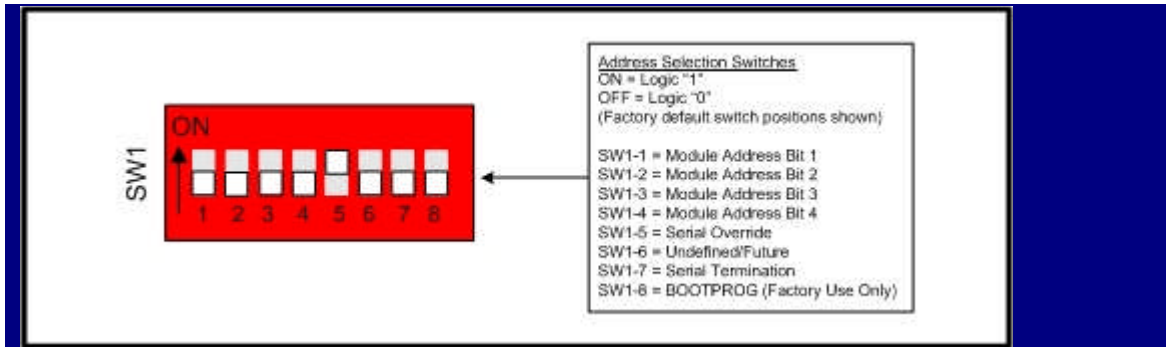

Figure 3-2 Drive Bay Bit Sync Configuration Switch Settings
The LS-40-B bit sync design contains configuration switches to control various functions. Figure 3-2 on page 16 contains a diagram of the configuration switches along with the default factory positions for these switches.
2. Set the configuration switches (SW1) based on the required user configuration. See Figure 3-2 on page 16 for a description of each switch and their functions. Use the following information to guide in configuration setups: